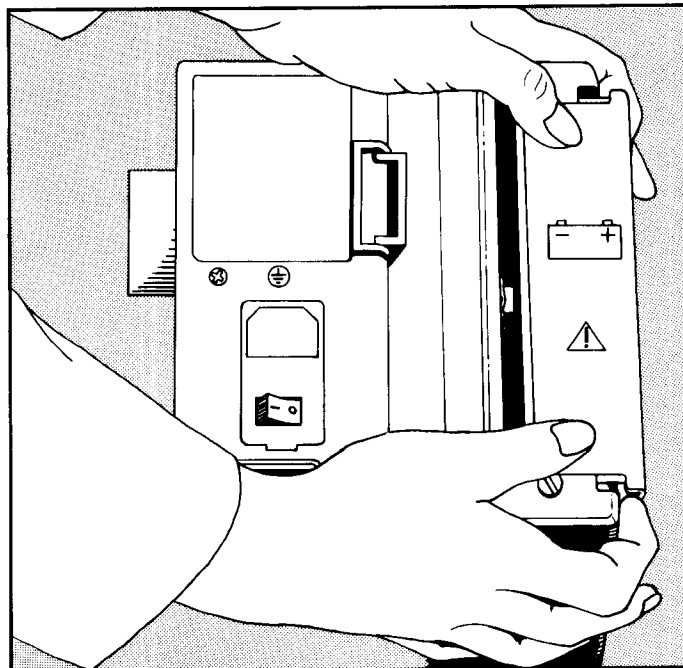

Figure 6-2. Remove Battery Door
3. Place both thumbs over the knurled portions of the battery door and push the door out and away from the monitor case as shown in Figure 6-2.